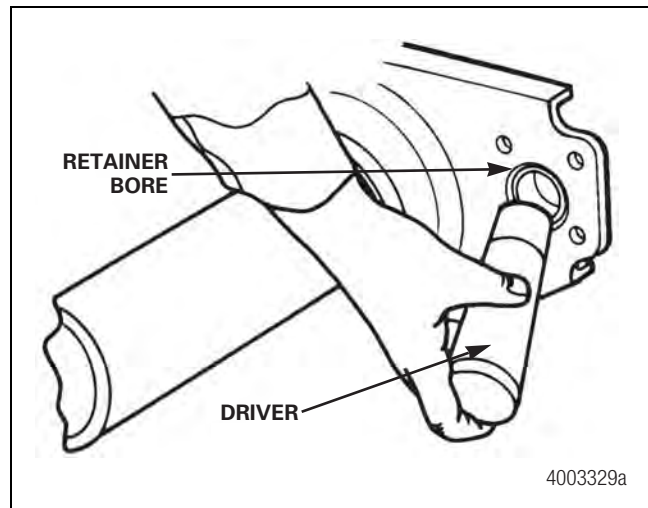

Figure 11.32
3. Drive the following components out of the retainer bore. Verify that the correct size driver is used and care is taken to ensure the bore is not damaged. Figure 11.32.